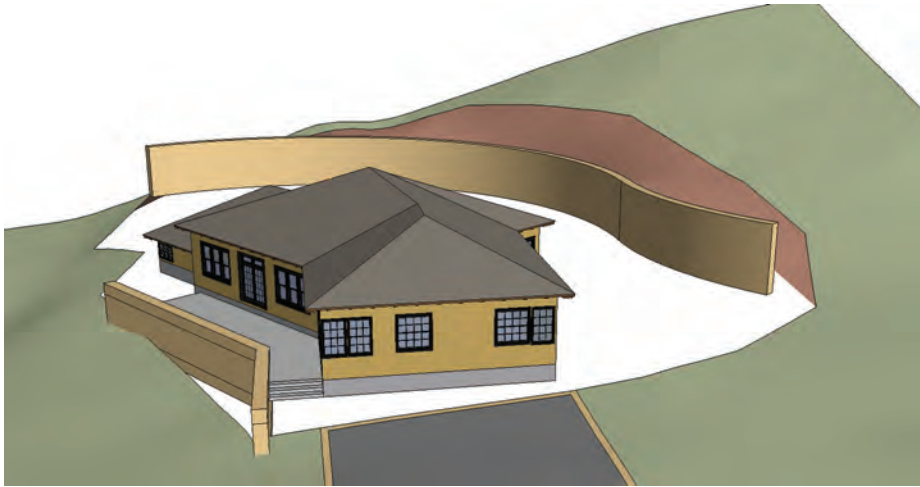

Fig. 15-25: The edited terrain connects the back wall to the terrain.
3. The edited terrain now cleanly connects the back wall to the terrain (Fig. 15-25).